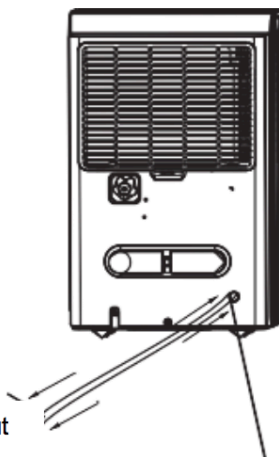

Fig. 13
- Press the pump drain hose outlet in towards the unit and pull the drain hose out (See Fig.13).